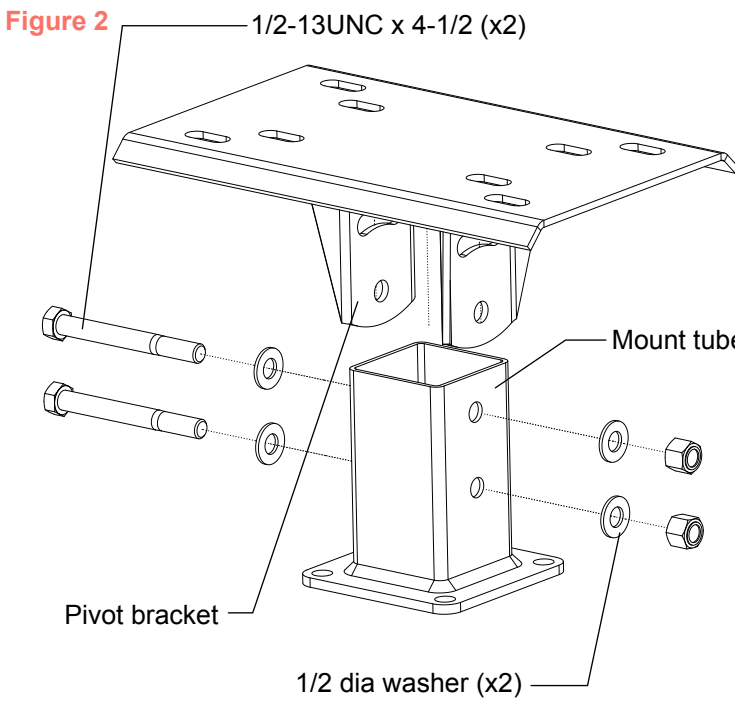

Figure 2
- Fasten pivot brackets to the extension tube with ears outboard. Leave the 1/2" dia. x 4-1/2" bolts and nylock nuts finger tight. See Figure 2.